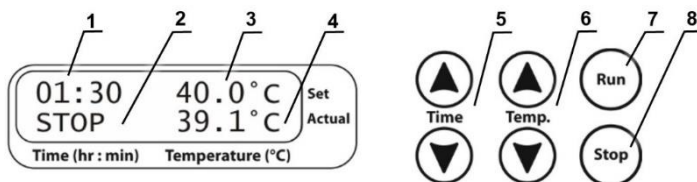
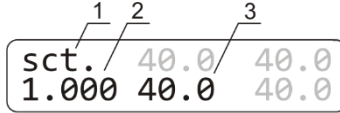
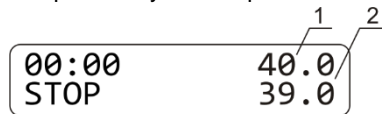

Figure 1. Control panel
Figure 2. Display in calibration mode: 1. Calibration mode indicator; 2. Calibration coefficient; 3. Temperature with current coefficient
Figure 4. Display after calibration:
5.4 **Temperature setting.** Use the ▼ and ▲ **Temp.** keys (fig. 1/6) to set the required temperature. Pressing the key for more than 2 s makes values change faster. Set temperature is displayed in the upper line of the display (fig. 1/3)
5.5 The heat block starts the heating. The actual temperature will be shown in the lower line of the display (fig. 1/4).
5.7 **Time setting.** The unit is equipped with an independent timer for convenient control over the sample incubation time. Use the ▼ and ▲ **Time** keys (fig. 1/5) to set the required sample incubation time in hours and minutes (hh:mm). Pressing the key for more than 2 s makes values change faster. Set time is displayed in the upper line of the display (fig. 1/1)
5.8 Press the **Run** key (fig. 1/7) to start the timer. The elapsed time will be indicated in the lower line of the display (fig. 1/2). After the set time interval elapses, unit begins beeping and a blinking STOP indication shows on the display. Press the **Stop** key (fig. 1/8) to stop the signal.
Caution! Stopped timer does not stop the heating / temperature maintenance process. The heating can be stopped by lowering the temperature below 25°C using the ▼ **Temp** key (OFF indication shows on the display, fig.1/3).
- 6.2 To change the calibration coefficient, hold the **Stop** key (fig. 1/8) pressed for more than 8 s to activate calibration mode. The calibration coefficient appears on the display (figure 4).
**Note.** Values marked in grey on figures 2 and 3 are not used in calibration and are meant for service engineers.
- 6.3 **Restoring factory settings.** Set 1.000 value using the **▲** and **▼ Temp** keys (fig. 1/6) as shown on fig. 2/1 to restore the factory settings. Press the **Run** key (fig. 1/7) once to save the changes and exit the calibration mode.
- 6.4.5 Hold the **Stop** key pressed for more than 8 s to activate calibration mode (figure 2).
- 6.5 The display will show calibrated temperature as shown on fig. 4/1 and the unit will continue thermal stabilization according to the previously set temperature.